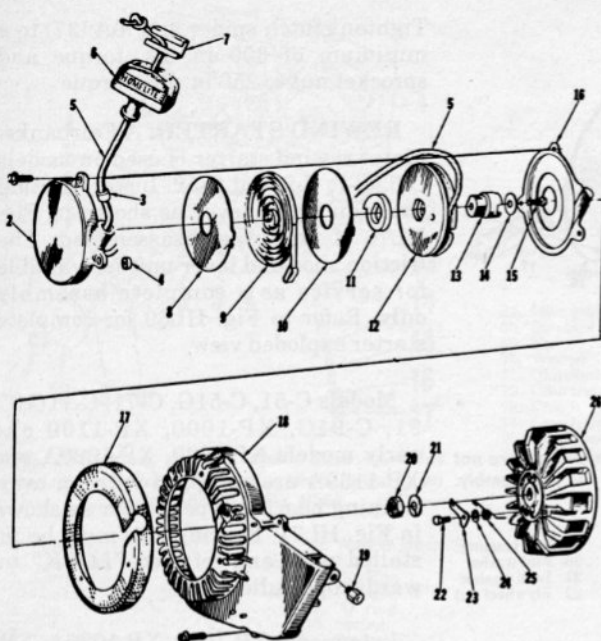

Fig. HL72—Exploded view of pawl type starter used on models outlined in text.
Late model XP-1020, XP-1020A, XP-1130A and all other models are equipped with the pawl type clutch assembly shown in Fig. HL72. Rewind spring (9) is wound in cover (2) in clockwise direction. Tension is placed on rewind spring by turning cover (2) in clockwise direction approximately three turns before installing cover retaining screws.